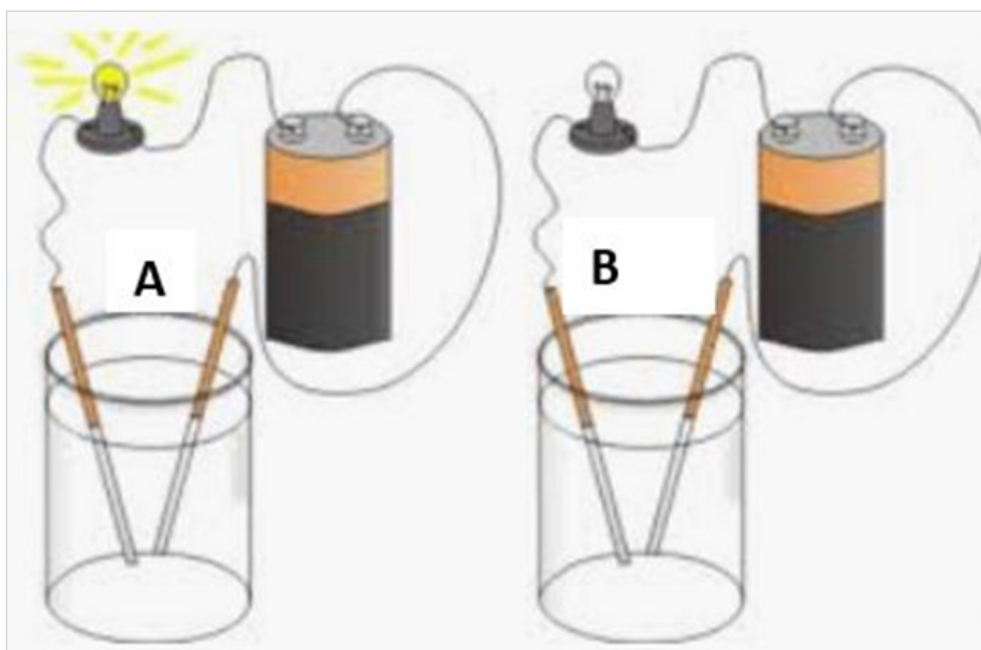

Figure 12.1: Verification of the conductivity of solutions
3. Put the graphite electrodes in the solution of sodium chloride as shown in Figure 12.1. What do you observe?